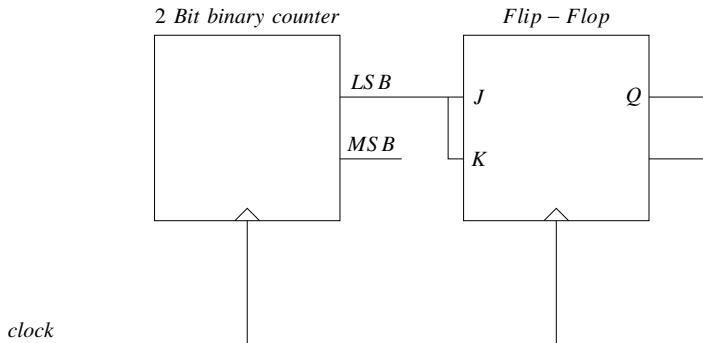

Fig. 5.28
29. For the circuit shown in Fig. 5.28, the clock frequency is  $f_0$  and the duty cycle is 25%. For the signal at the  $Q$  output of the Flip-Flop,